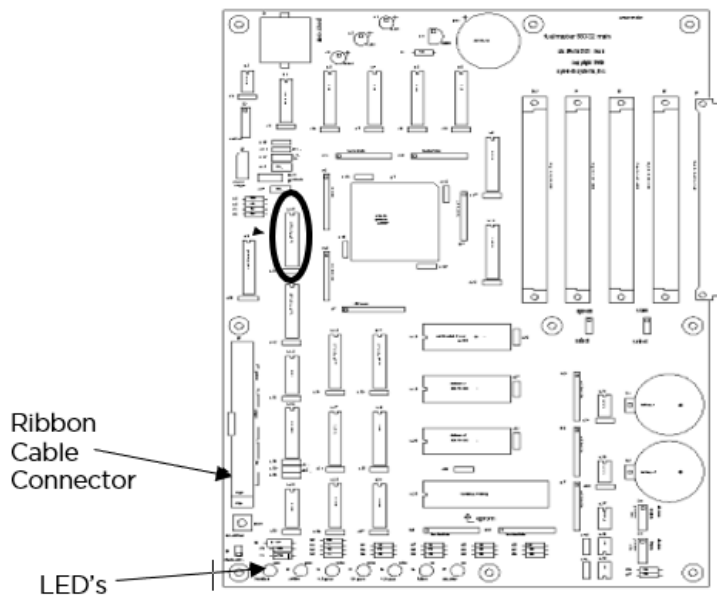

Figure 1
4. Locate the “U10” IC. “U10” is the component location of the IC. It can be found on the main board of the FMU. The IC is in socket “U10” near the upper left side of the board (circled in Figure 1).